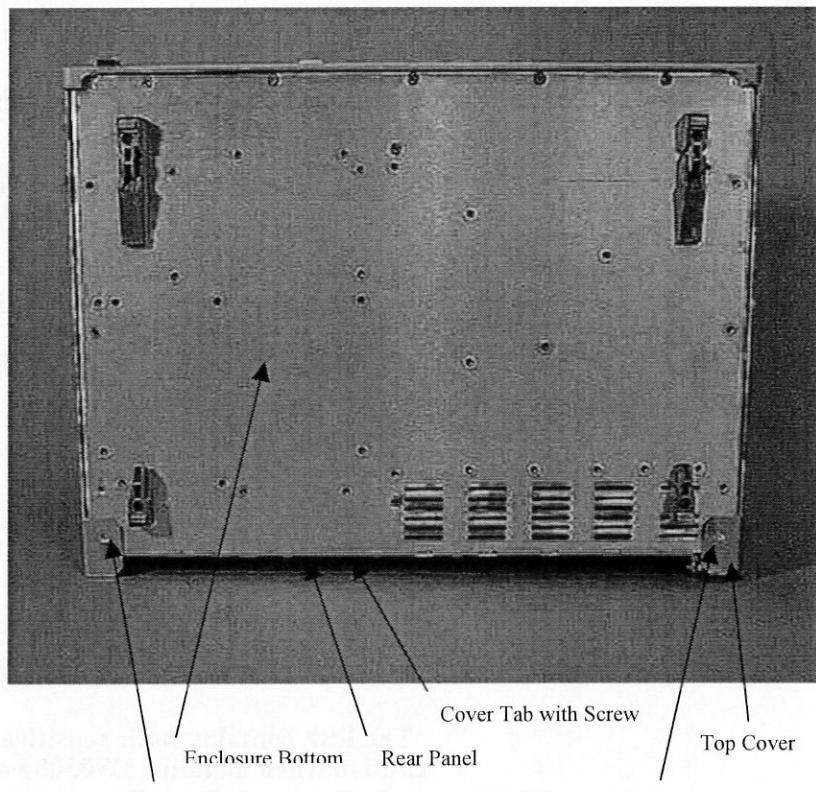

Figure E.1: Removal of the Top Cover
2. Remove the 3 screws, two as shown and one is on the Rear Panel which is labeled “Cover Tab with Screw. See (**Figure E.1**), which shows how to remove the cover.